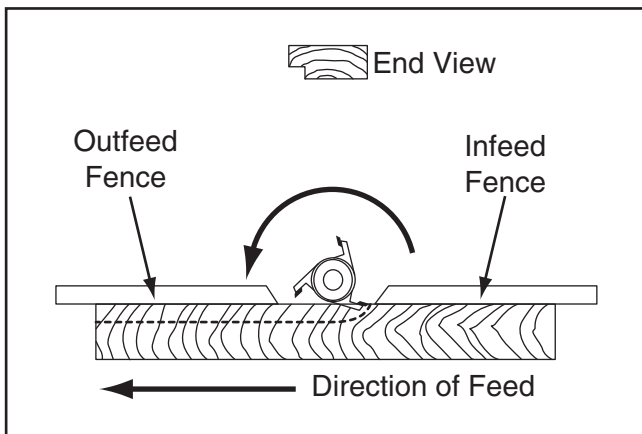

Figure 43. Partial feed fence adjustment.
5. Run a test piece through the shaper (see **Figure 43**).